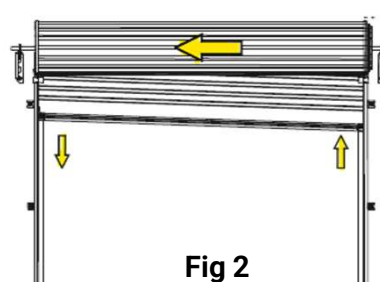

Fig 2
- If the door rolls up crooked with the LEFT HAND SIDE higher than the right, move the axle 20 - 40mm to the LEFT, as per Fig 2 above.